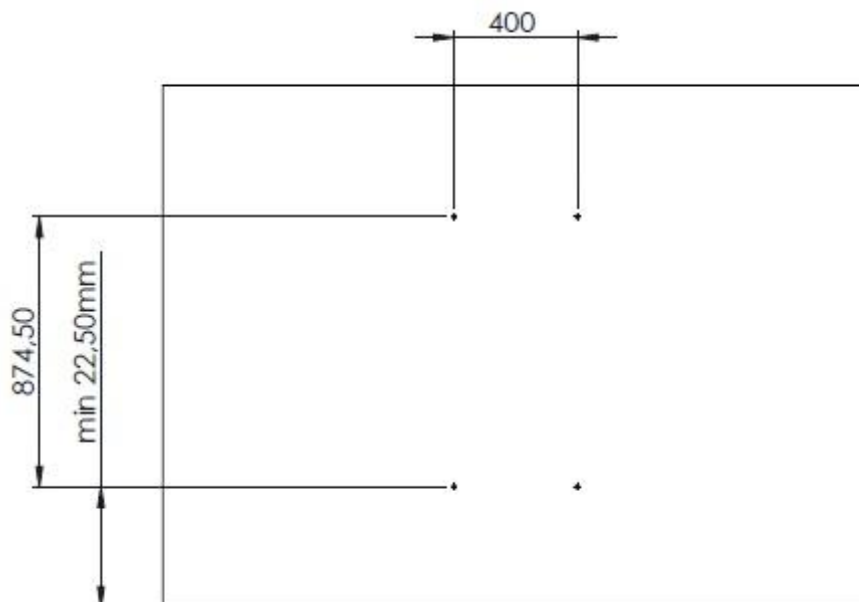

Fig.9.
1. If mounting the lift on a wall, drill holes according to the dimensions given in Fig. 9.